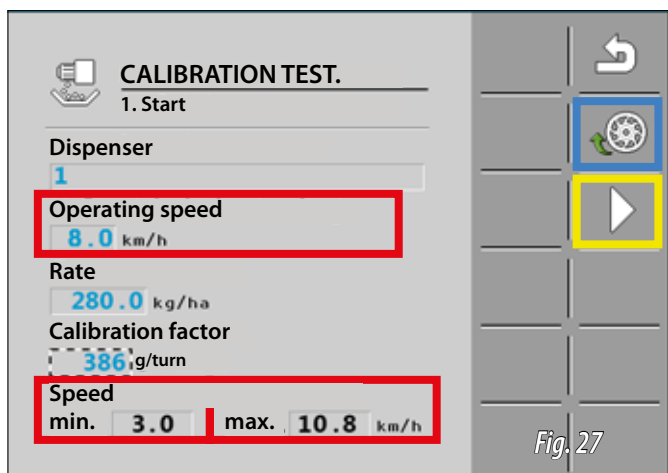

Fig. 27
**14-** After entering the 3 desired values, check the minimum and maximum operating speeds on the controller screen. When the speed that you wish to work at is between these two values (in red, Fig. 27), open the guillotine door and block it with the bolt, fill the dosing cells (press "PRE-FILLED" icon, in blue, Fig. 27) and then perform the test (press "PLAY" icon, in yellow, Fig. 27).